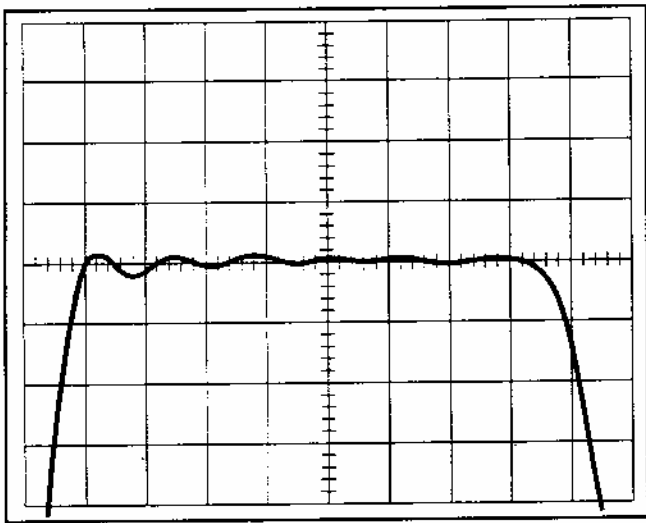

Figure 4 - "Flat-Top" Waveform Centering
2. Set the 'scope vertical attenuator to 0.5V/div, timebase to 50 μ s/div. With the two 'scope vertical position controls, center the rippled flat top of both waveforms on the graticule centerline as shown in Figure 4.